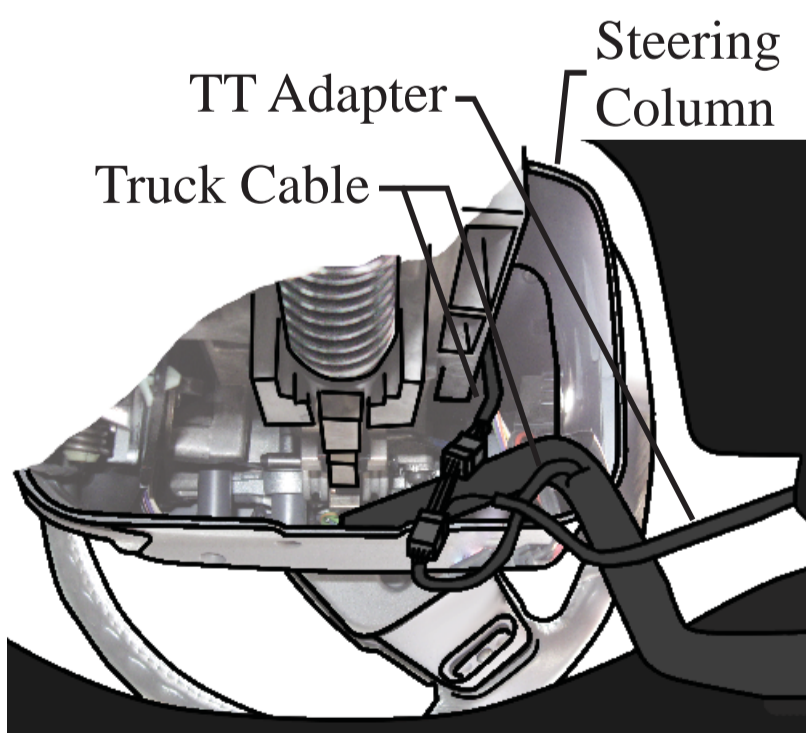
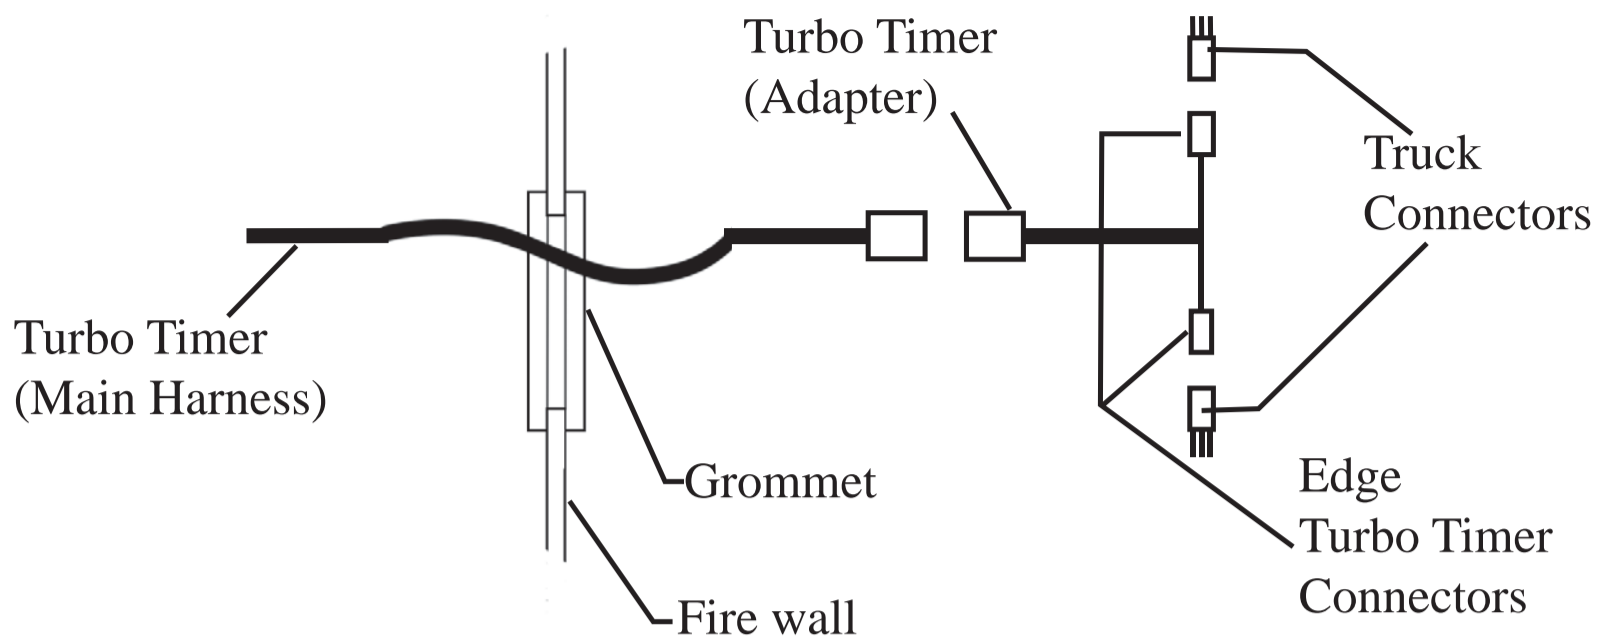

Figure 11 - Looking up from brake pedal (2006-2009)
Figure 12 - Routed Turbo Timer
2. Remove panel under steering column. (Figures 11 & 11A)
4. Connect the Turbo Timer (TT) adapter in between the truck connectors. **The 2006-2009 will be an in-line cable coming from the steering column.**
5. Route the Turbo Timer (Main Harness) connector through the fire wall grommet as shown in (Figure 12).